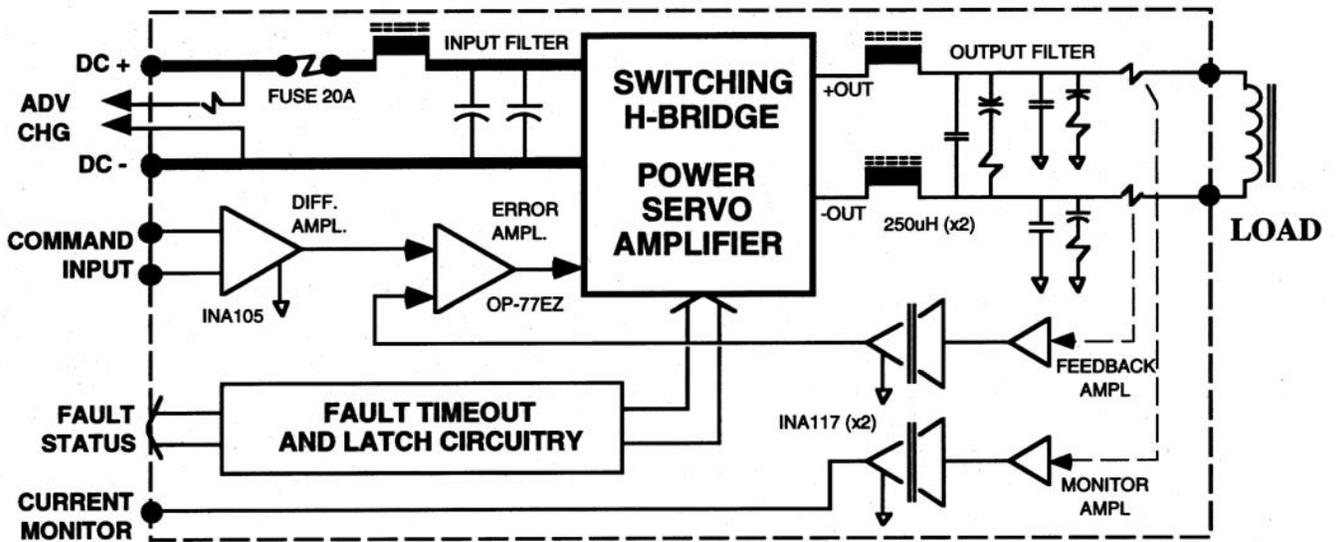

Figure 1.3. MCOR12 Block Diagram.
1.3 Power Modules. The MCOR power module is responsible for converting the unregulated DC bulk power into a precision bi-polar current source suitable for driving corrector magnets and beamline devices. The power modules are controlled using +10 to -10V FS analog command signals sent over the backplane from the control system. At the time of this writing there are two types of available MCOR power modules: The MCOR12 (12A FS) and the MCOR30 (30A FS). The MCOR12 uses a commercial switchmode servo driver (The AMC 30A8) operating in a voltage feedback mode to regulate the output current as shown in **Figure 1.3**. The 30A8 servo amplifier is bolted directly to the main PC board.